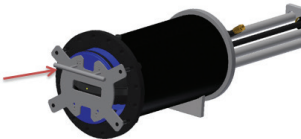

Figure 57
**5.0.16)** The lifting handle may now be used to lift and progress the cartridge further into the insertion housing by inserting the two prongs of the handle through the 5/8" holes of the plate and into the 5/8" holes in gate housing (see Figure 57).